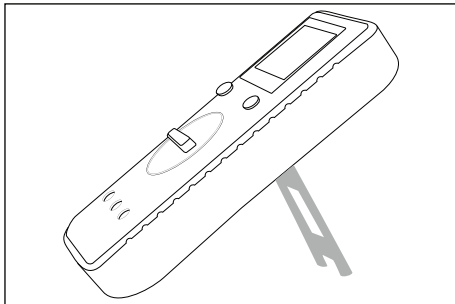

Fig. 4
- ◆ To set up the device, fold out the stand on the back of the device (see Fig. 4).